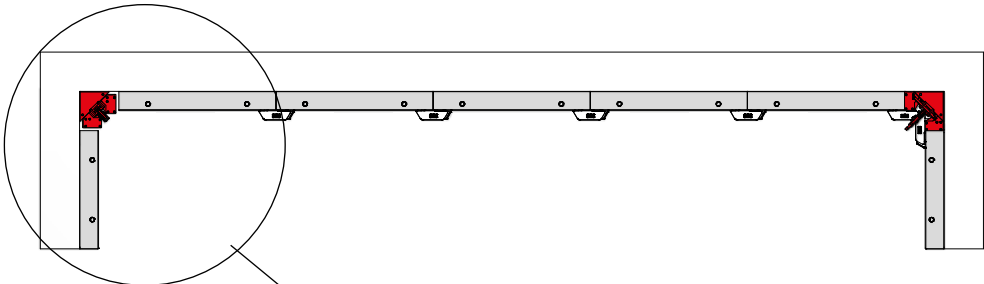

Fig. 57.2
2. Activate the M stripping corner (Fig. 57.2 and pages XT-54 to -56).